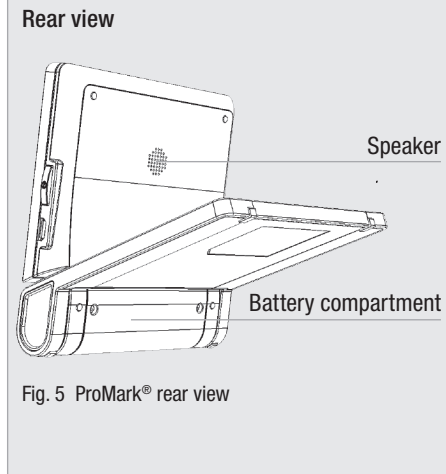

Fig. 5 ProMark® rear view
- Release the screws and remove the battery compartment cover (Fig. 5).